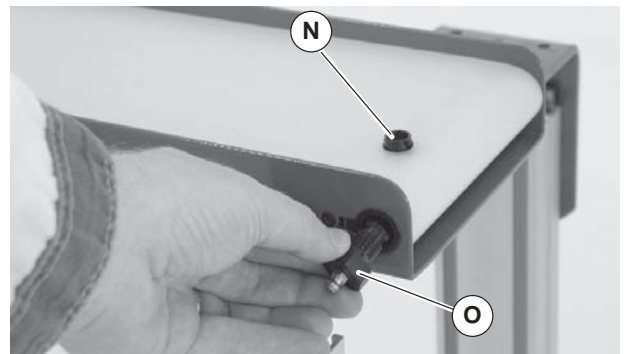

Figure 5
2. Install greasing adapter (45-12, part of tool kit 4500) (Figure 5, item O). Make sure the adapter shoulder is seated against the conveyor frame.